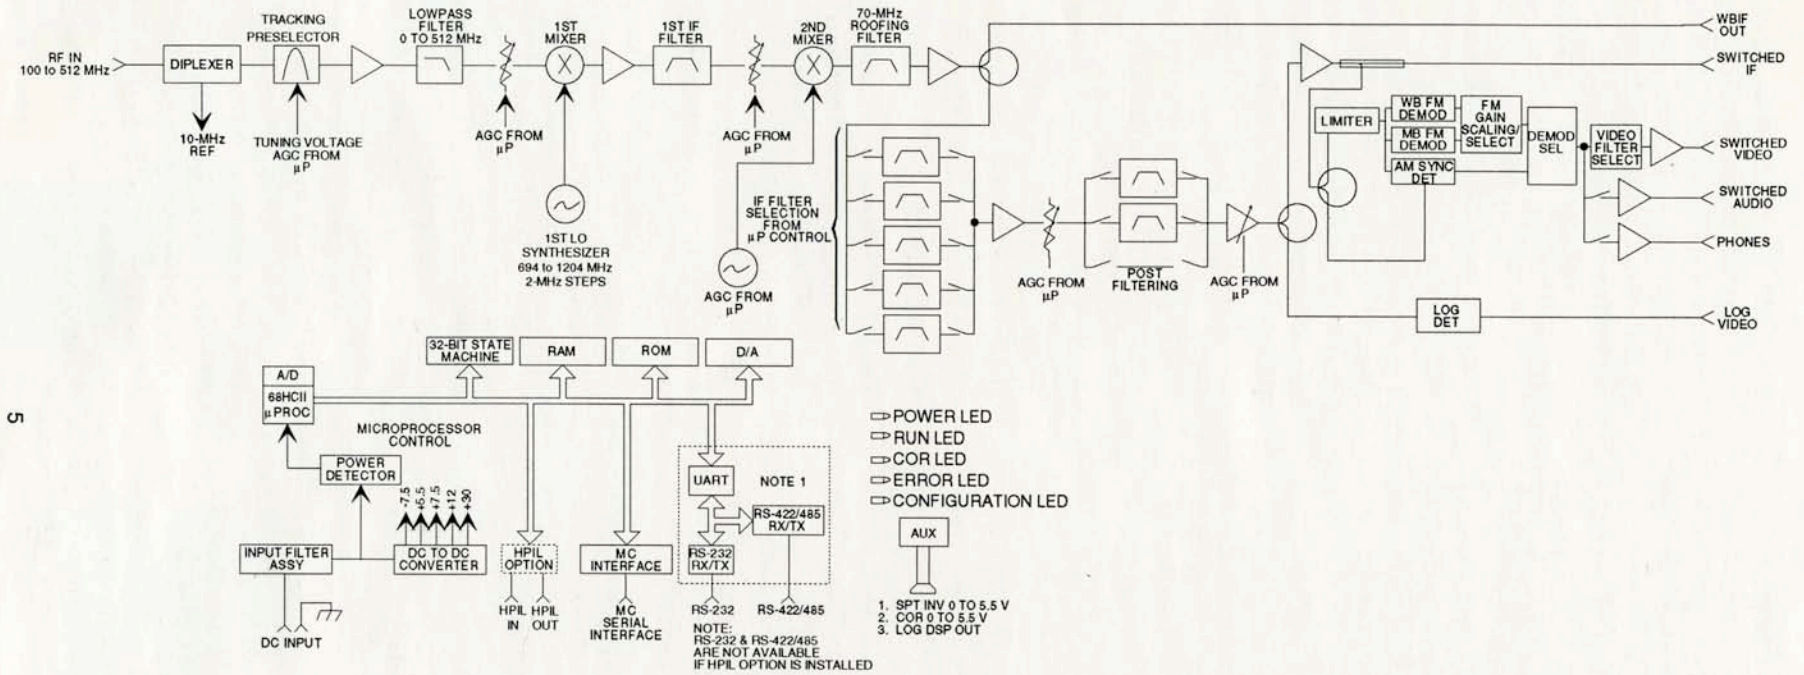

Figure 3. WJ-8809/RX Simplified Block Diagram
Following the second conversion, the 0.5 to 2 GHz output is amplified and filtered with a 2-GHz lowpass filter. This output is then coupled to the input of the Frequency Extender (FE), shown in Figure 3, which downconverts the 0.5 to 2 GHz frequency band to the WJ-8809/RX input frequency range of 100 to 512 MHz.
The WJ-8809A/MC FE block diagram, shown in Figure 3, demonstrates how signals in the 512 to 2032 MHz range are filtered with five suboctave filters, and then converted to a 200 to 512 MHz range. Signals between 100 and 512 MHz bypass the suboctave filter, and go through a low-pass filter instead. The RF signal then passes through a diplexer that separates the 10-MHz reference from the WJ-8809/RX. The RF signal then is connected to the WJ-8809/RX via a short length of semi-rigid cable that is external to the unit.